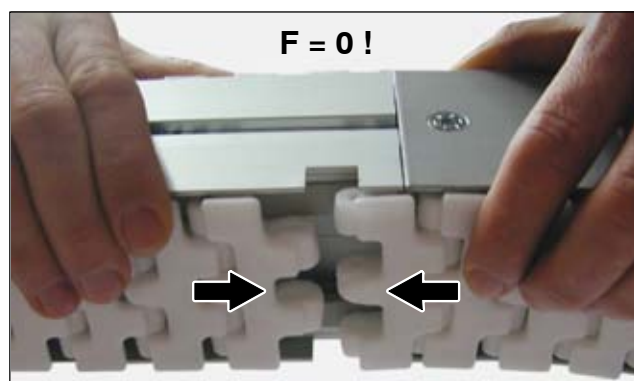

Fig. 27: Check chain length
- Check chain length (see Fig. 27). Shorten or lengthen chain as necessary.